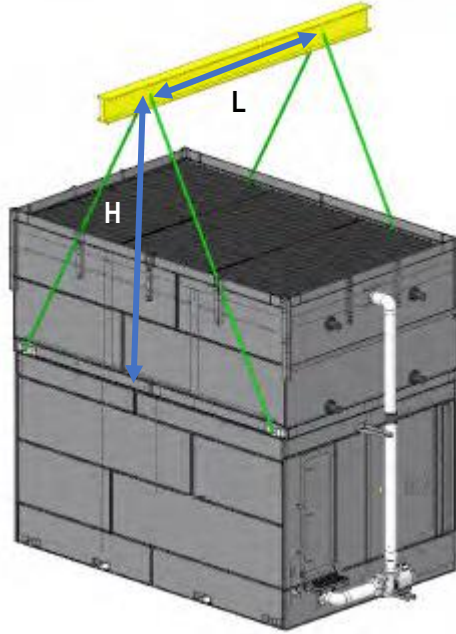
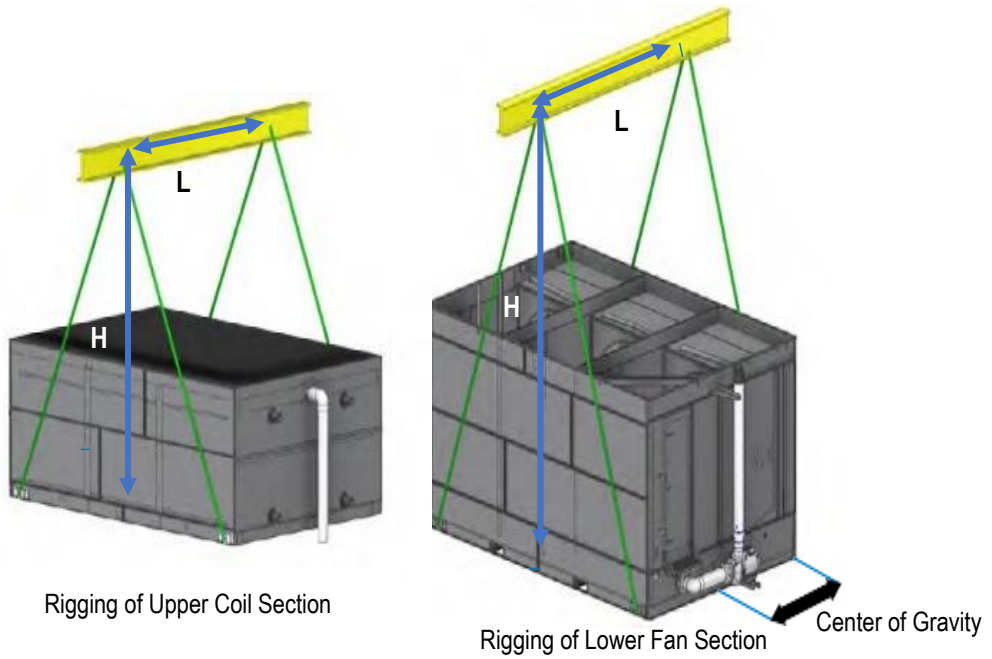

Figure 1. Single-Piece Lift
Figure 2. Two-Piece Lift
Most single cell Vertex™ Evaporative Condenser products are designed to be lifted in one assembled piece as shown in **Figure 1**. **Verify the total unit shipping weight is below 35,000 lbs. before performing a single-piece lift.** A two-piece lift is shown in **Figure 2**.
WARNING: Single piece lift is ONLY possible when total unit shipping weight is under 35,000 lbs. Please refer to the shipping weight shown on the Unit Print from submittal package. Single piece lifting must be done using lifting ears on the base of the upper casing section (See **Figure 1**).
1. Remove any motors or accessories shipped in the cold water basin. Rig the basin section. The rigging hook must be placed above the section's center of gravity as detailed in **Figure 1** and **Figure 2**.